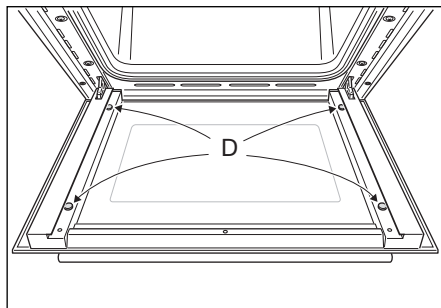

Fig.24a
- Check that the four rubber pads are in place ("D" in Fig. 24a).